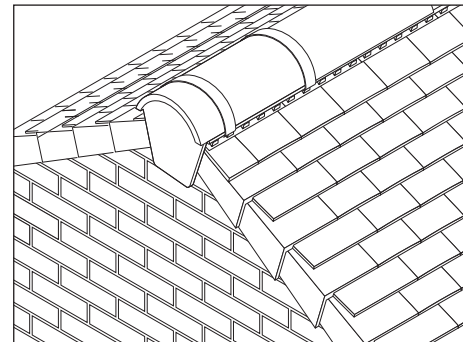

Fig. 17 – Finish ridge using block end ridge
- 5 Where block end ridge is used, use additional fixing by clipping a ridge union over tile near end (Fig. 17). Break off locating lugs on underside of hip/ridge union with pincers or other suitable tool before fitting. Make two small cuts (max. 5mm deep) at either side of block end hip tile to allow claws of hip ridge union to clip onto bead of batten section (Fig. 17).